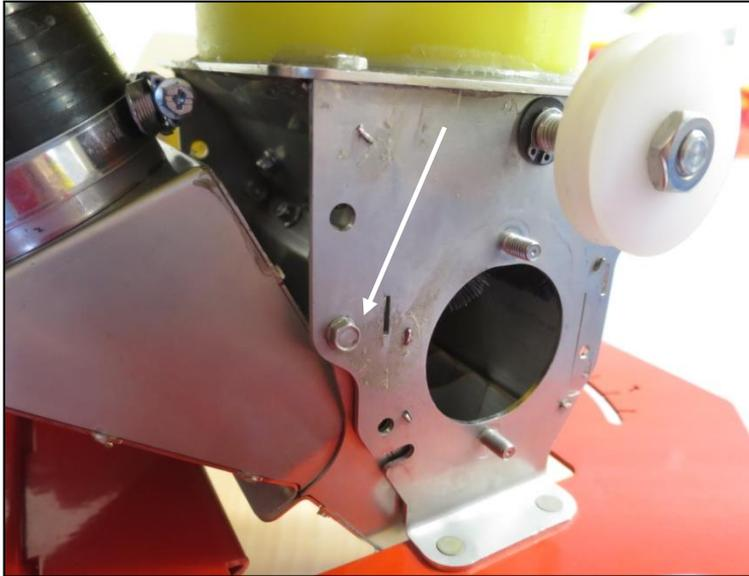
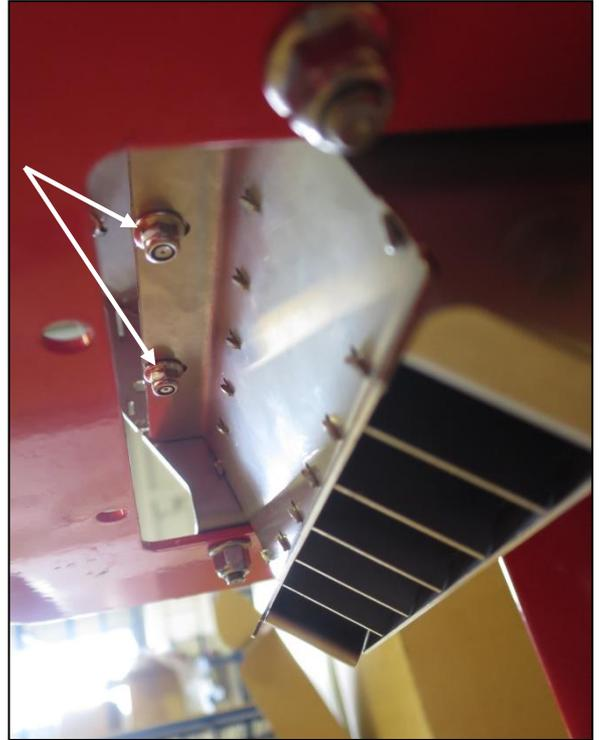
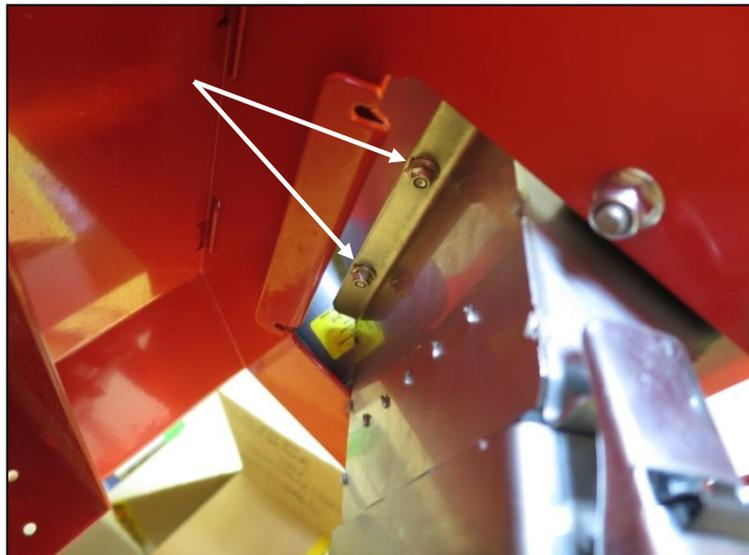

Fig.: 147
Fig.: 148
Fig.: 149
- Now install the air channel from the bottom through the large opening and fasten it on each side with one hexagon bolt (marked in Fig.: 147). Moreover, fasten the air channel both at the front (with the previously loosened flange nuts Fig.: 148) and at the rear (with the enclosed flange nuts Fig.: 149).